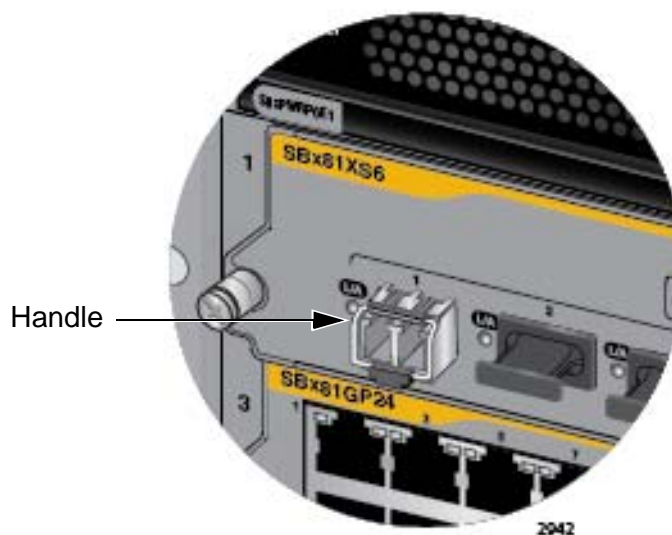

Figure 90. Verifying the Position of the Handle on the SFP+ Transceiver in the AT-SBx81XS6 Line Card
5. Before connecting the cable, verify the position of the handle on the SFP+ transceiver. The handle should be in the up position, as shown in Figure 90.